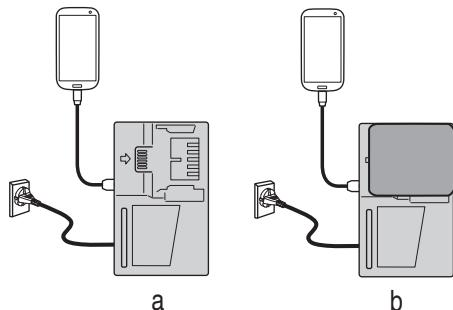

Fig. 23
- Charging a USB device from a electrical outlet (**Fig. 23-a**).
- Charging a USB device and battery from a electrical outlet. (**Fig. 23-b**)